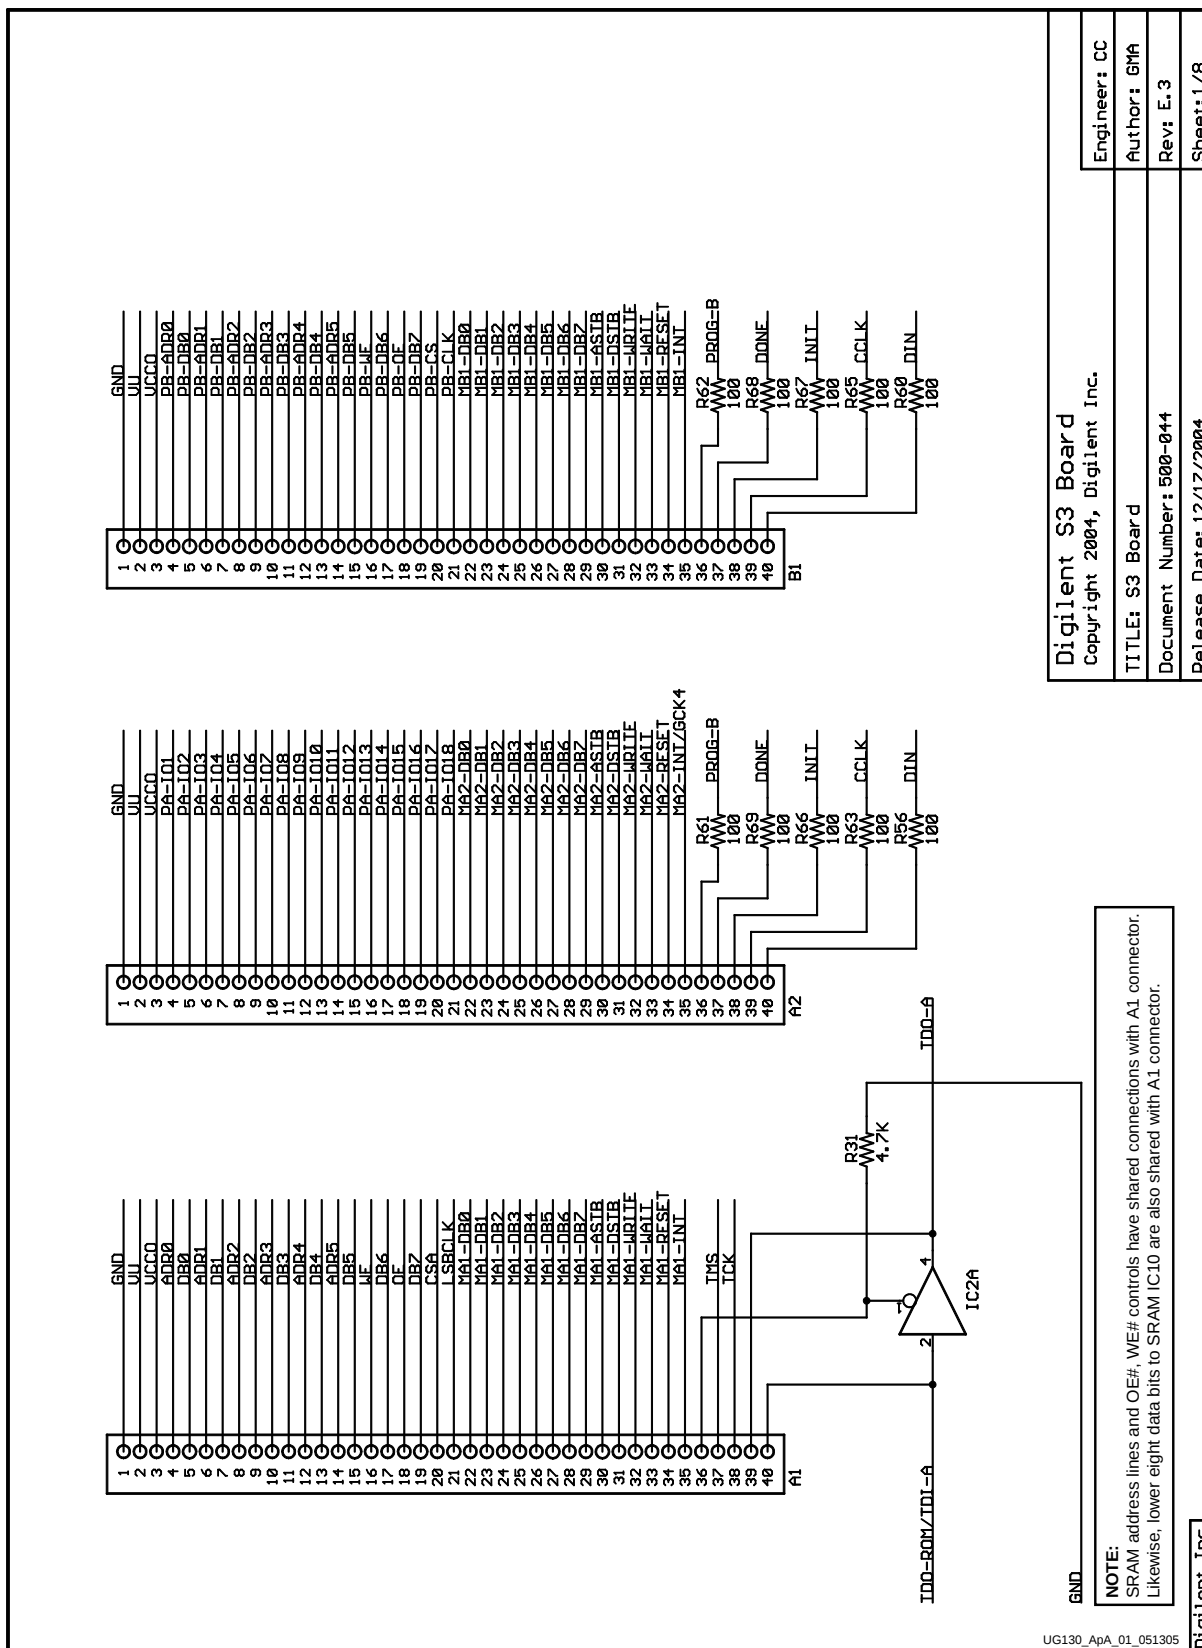

Figure A-1: A1, A2, and B1 Expansion Connectors
- Figure A-1, “A1, A2, and B1 Expansion Connectors”